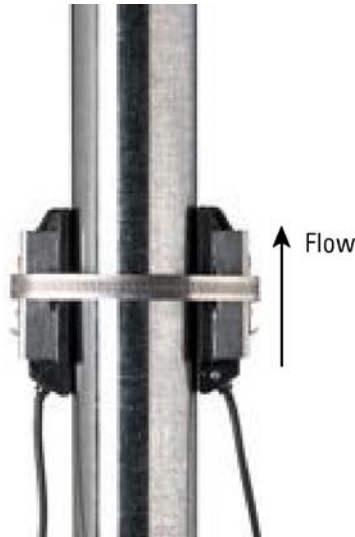

Figure 2-6.
4. Mount the transducers, ensuring the transducers face the same direction (as shown in Figure 2-6):